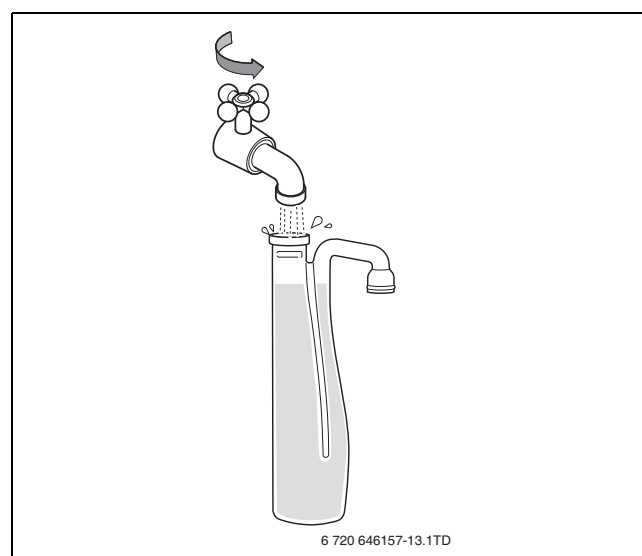

Fig. 14 Filling the condensate trap with water
- Fill the condensate trap (supplied with the boiler) with water (→ fig. 14).